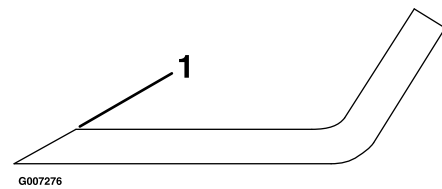

Figure 47
1. Use a file to sharpen the cutting edge at both ends of the blade (Figure 47). Maintain the original angle. The blade retains its balance if the same amount of material is removed from both cutting edges.